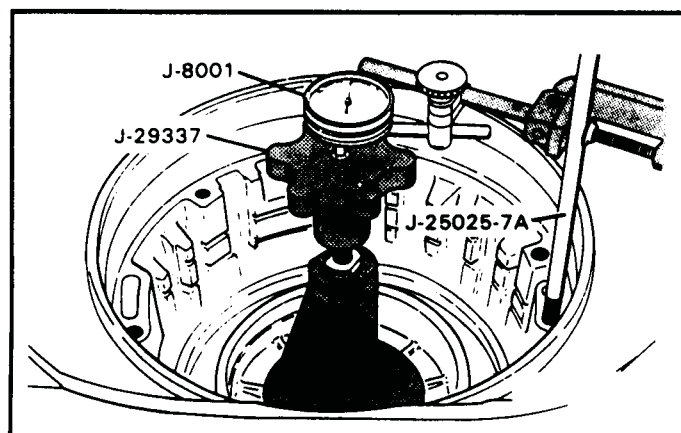

Figure 107
2. Install lifting tool J-29337 onto the forward clutch shaft as shown in Figure 107.
3. Install dial indicator onto the transmission as shown in Figure 107.
6. Pull upward on the lifting tool J-29337, shown in Figure 107, and read dial indicator.